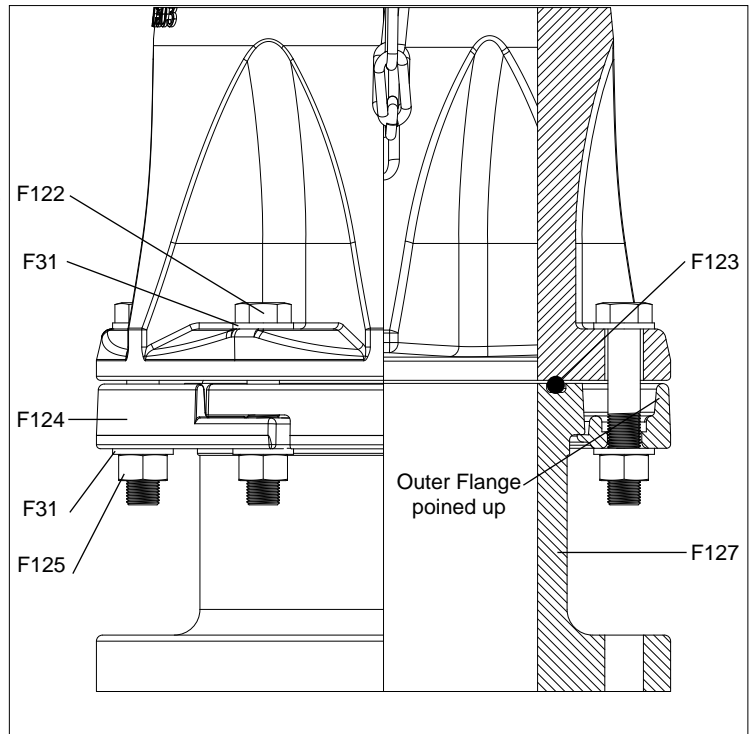

Fig. 6
3. Install the Nozzle Section Bolts (F122), (with a new Nozzle Section Washer (F31) beneath the head of each bolt), into six mounting holes. (See Fig. 6)